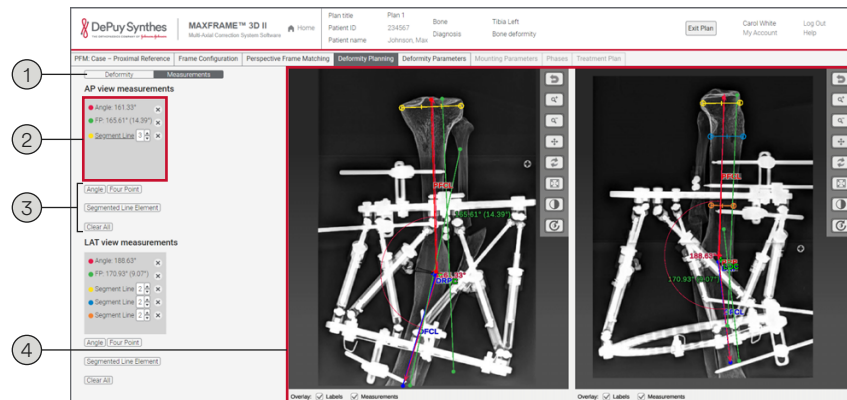

Figure 108 – PFM – Measurements.
1. Select the measurement tool (**Angle**, **Four Point**, or **Segmented Line Element** cf. [2] in figure 108).
1. To modify a measurement, click its entry in the list of measurements (cf. [3] in figure 108 on page 95).
To delete a single measurement, click its **Delete** icon (✕) in the measurement list (cf. [2] in figure 108 on page 95).
To delete all the added measurements in AP and LAT view, click **Clear All** in AP or LAT respectively (cf. [3] in figure 108 on page 95).